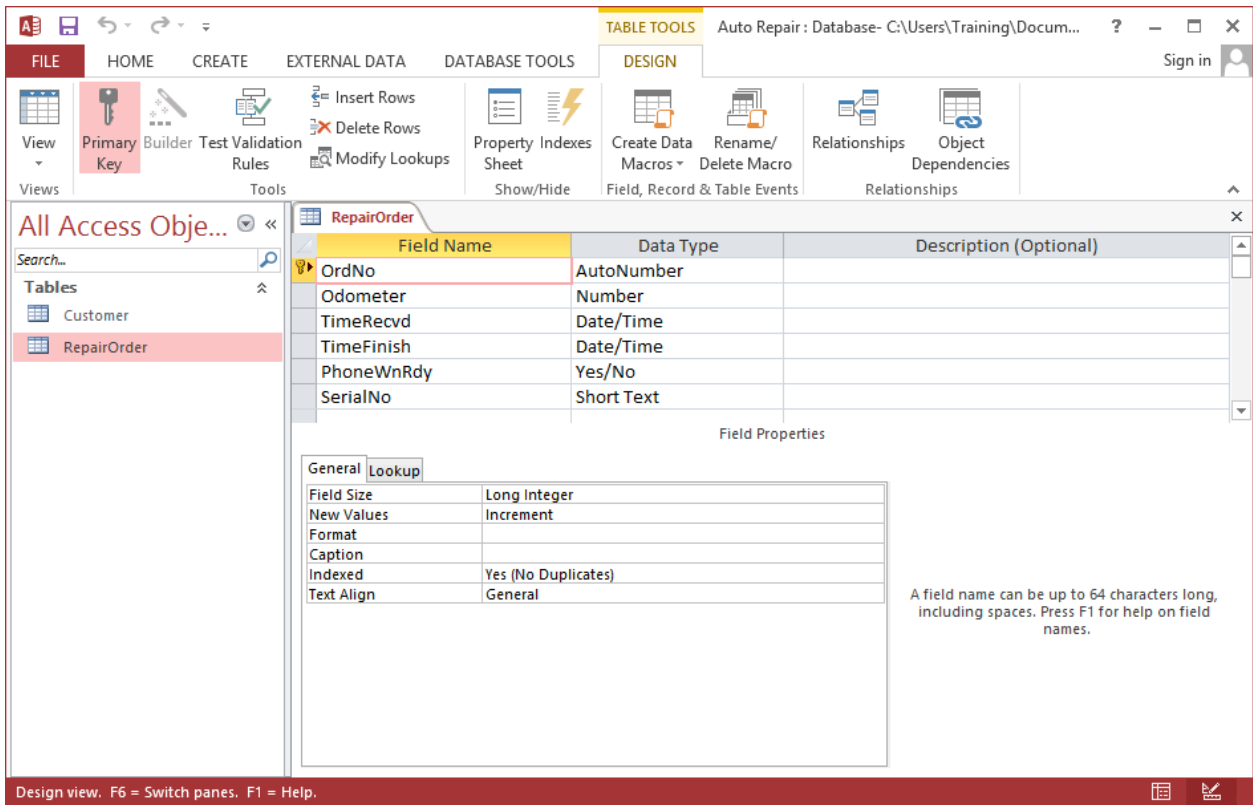
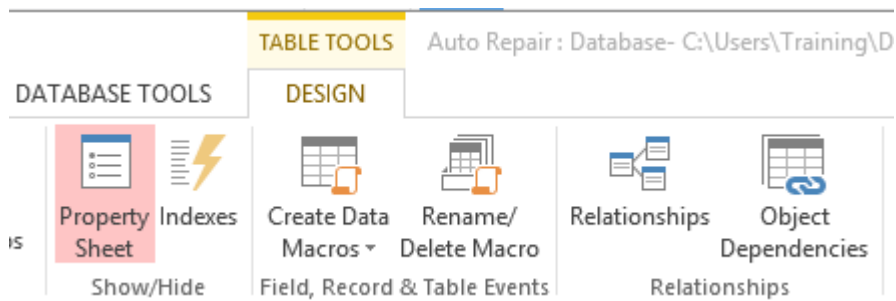

Figure 15: Design View with the design tab in ribbon
Figure 16: Design Tab in the Ribbon Showing the Properties Button
1. **Open the Table Properties Window:** With the Design view open (Figure 15), select **Design** → **Property Sheet** (Figure 16) and a blank Table Properties window appears (Figure 17).